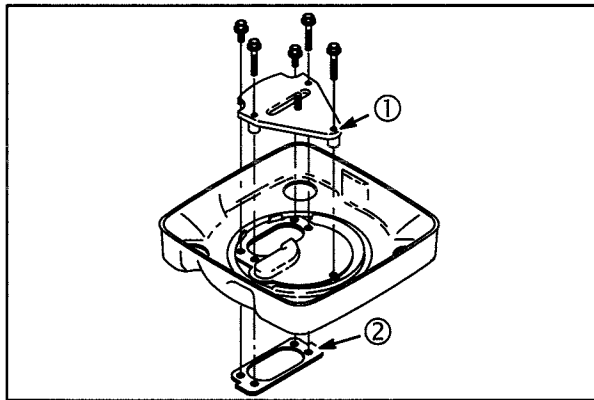

Fig. 42
1. Install new air cleaner mounting gasket (2) with adhesive side toward air cleaner base, **Fig. 42**.
3. Install carburetor shield (1). Install five screws finger tight. Torque screws to **65 in. lbs. (7 Nm)**.